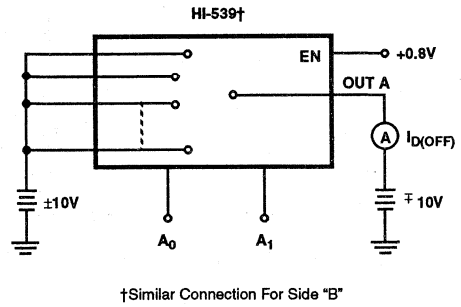

FIGURE 2B. $I_{D(OFF)}$ TEST CIRCUIT (NOTE 1)
1. See Figures 2B, 2C, 2D. The condition ±10V means: